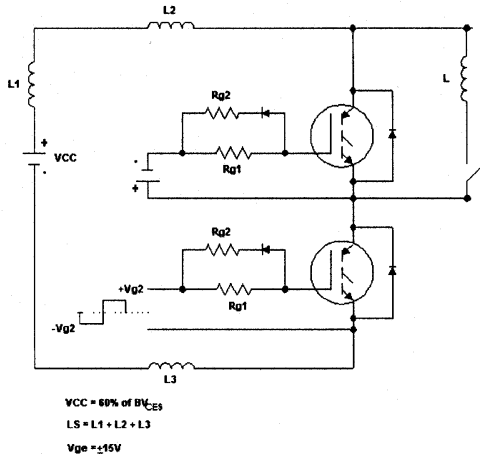
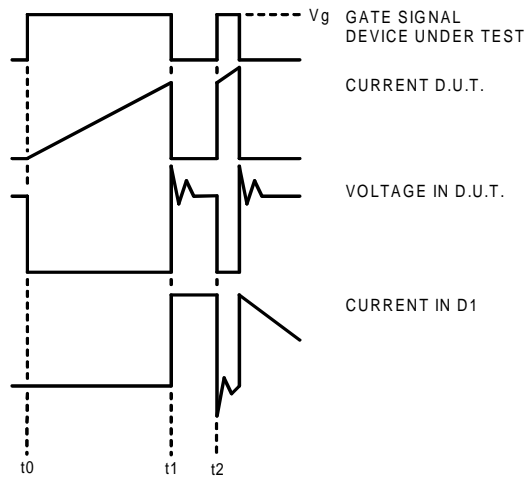

Fig. 17 - Test Circuit for Measurement of I_{LM} , E_{on} , $E_{off}(\text{diode})$, t_{rr} , Q_{rr} , I_{rr} , $t_{d(on)}$, t_r , $t_{d(off)}$, t_f
Figure 21. Macro Waveforms for Figure 17's Test Circuit
| E_{on} | Turn-On Switching Energy | — | 29 | — | mJ | See Fig.17 through Fig.21 |
- ① Repetitive rating; $V_{GE} = 20V$, pulse width limited by max. junction temperature.
- ② See fig. 17
- ③ For screws M5x0.8
- ④ Pulse width 80 μ s; single shot.